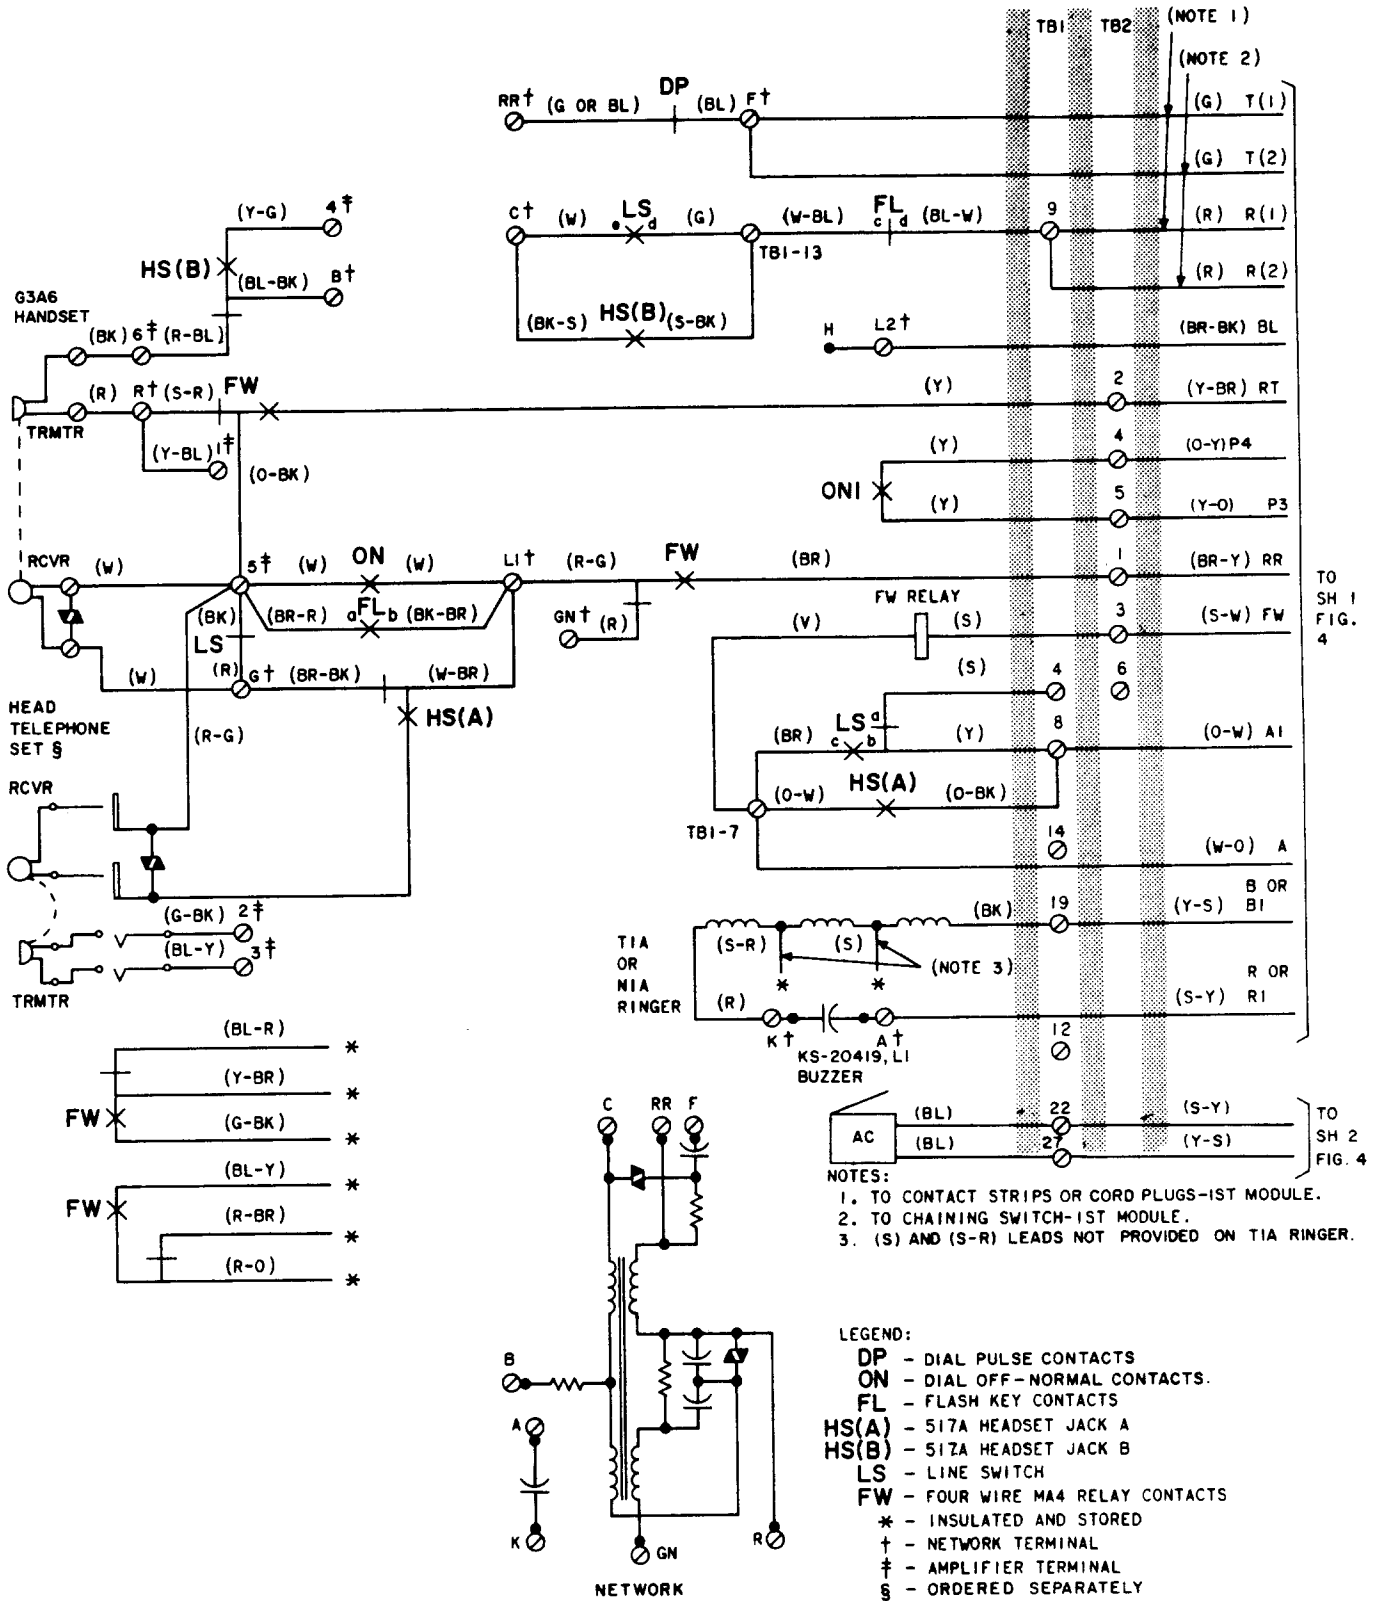

Fig. 1—682AA (MD) and 683AA (MD) Telephone Set, Connections
1.03 These sets (Fig. 1, 2, and 4) provide headset or handset operation.